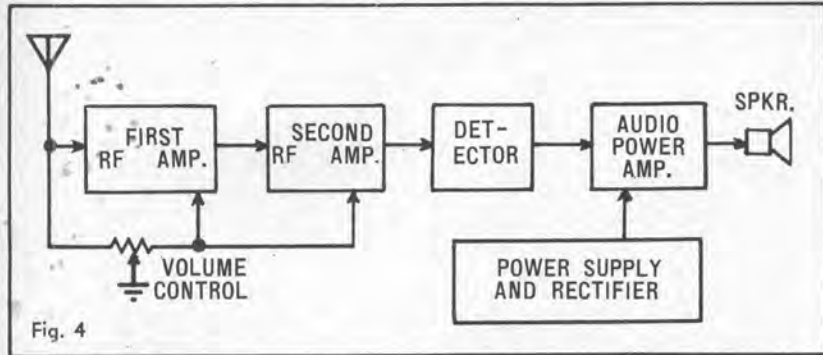

Fig. 4
lowed the pattern shown in the block schematic diagram of figure 4.
Let us now return to the block diagram of early valve TRF receivers shown in figure 4.
**Figure 4: The block diagram of an early TRF receiver using valves and two RF amplifier stages. The volume control alters the bias on the RF stages and also acts as a variable shunt across the aerial circuit.**
At first, the functions of mixer and oscillator were entirely separate, as indicated in Figure 4.